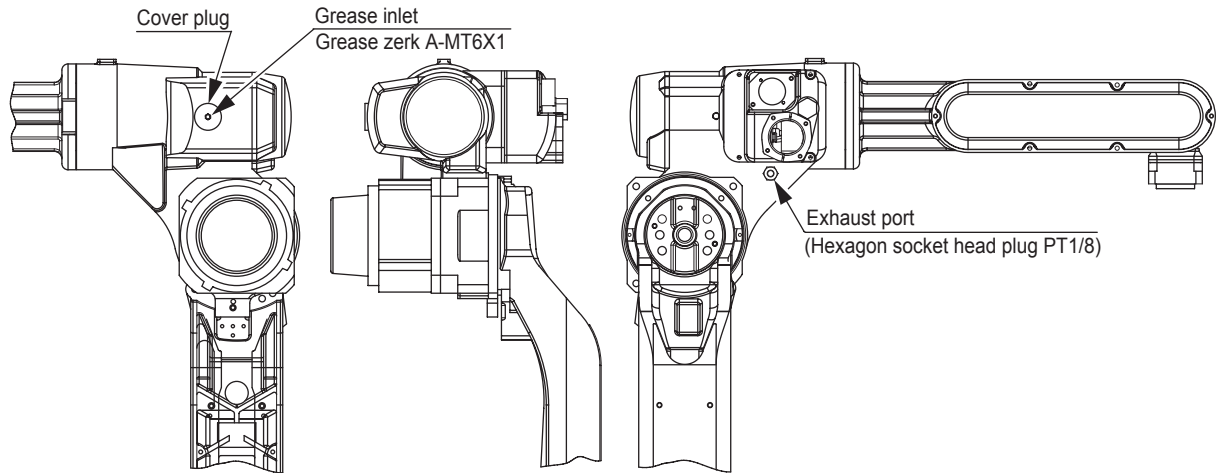

Fig. 31 (b) R-Axis Speed Reducer Diagram (For Serial Numbers S3W120-7 to RH9520-3112)
3. Inject grease into the grease inlet using a grease gun. (Refer to " Fig. 31 (b) R-Axis Speed Reducer Diagram (For Serial Numbers S3W120-7 to RH9520-3112) ".)